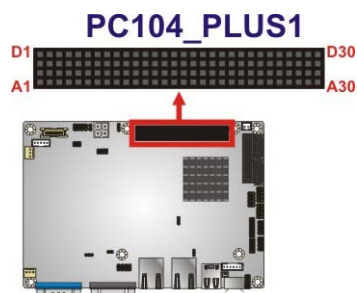

Figure 3-14: PCI-104 Connector Location
- CN Location:** See **Figure 3-14**